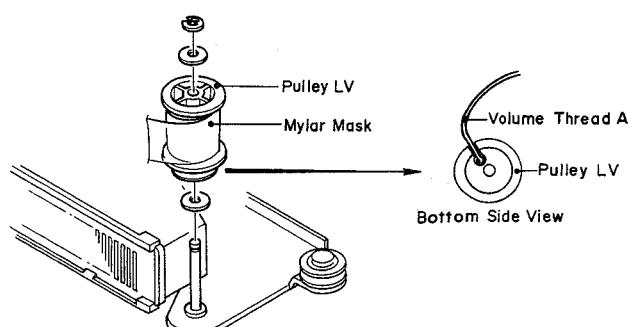

Fig. 5.2.6
- Refer to Fig. 5.2.6. Remove an E-ring and a washer from the Mylar Mask Ass'y and detach Pulley LV. Insert the knot on Thread A into the notch of Pulley LV, and mount Pulley LV onto the shaft.